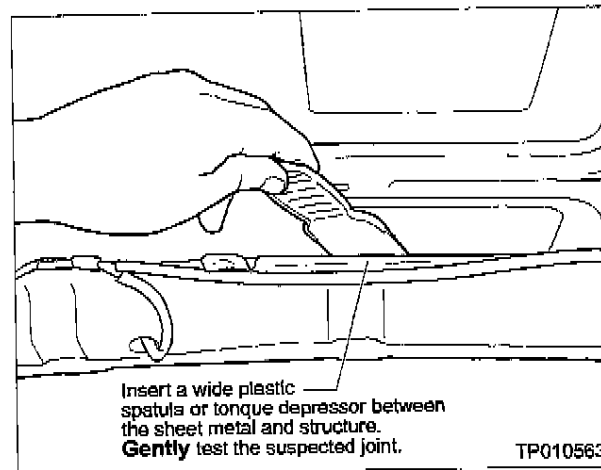

Figure 2
3. Insert a wide plastic spatula or wood tongue depressor between the sheet metal and structure to **gently** test the suspected joint(s) - See Figure 2.